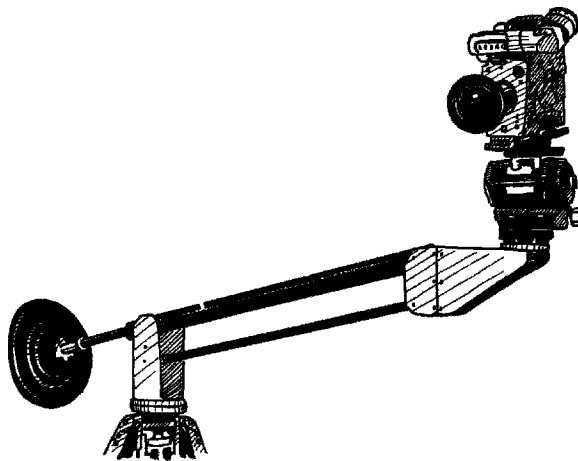

Figure 10.3 Trovato Tote Jib (Trovato Manufacturing, Inc.).
- **Trovato Tote Jib** (Figures 10.3–10.6)